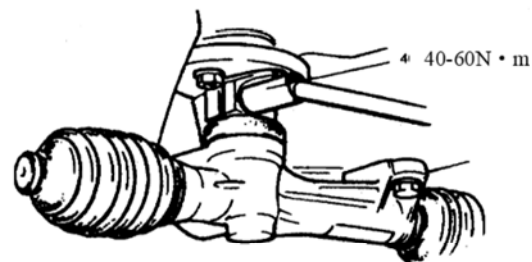

Fig. 3.6-10
- 6) Screw the gear shaft connector bolt to the specified torque. Please refer to Fig.3.6-10.